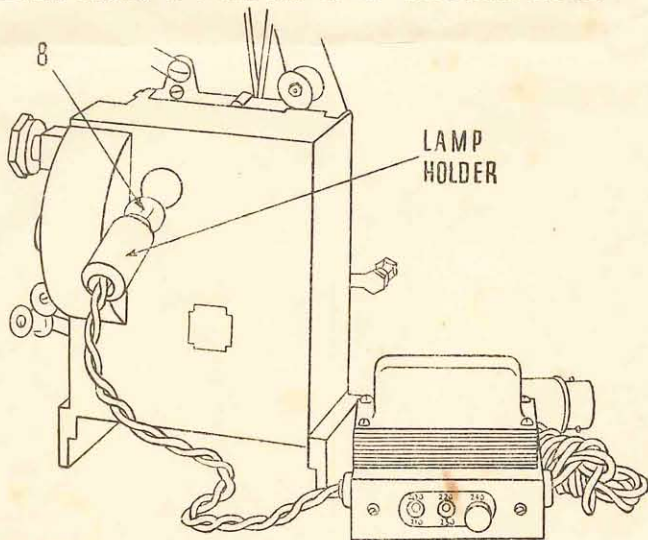

Fig. 8.
When the transformer has been correctly set, screw into the lampholder Lamp (8) similarly to an ordinary hand torch bulb. Push the lampholder into position (Fig. 8), switch on supply and turn main handle (2) slowly until the shutter is open.